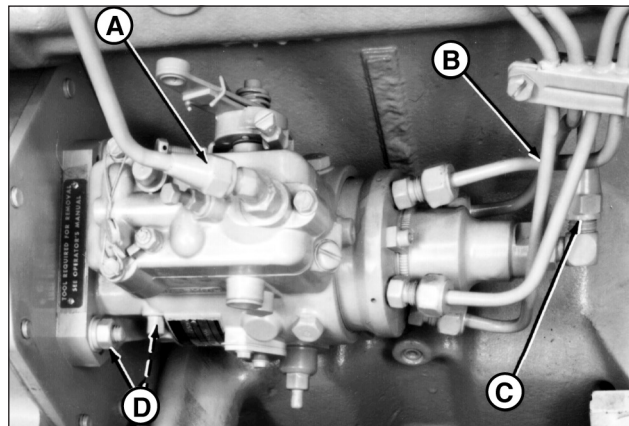

Figure 17 Reproduced by permission of Deere & Company, c.2004. Deere & Company. All rights reserved.
3. Disconnect fuel return line and fuel supply line (Figure 17).